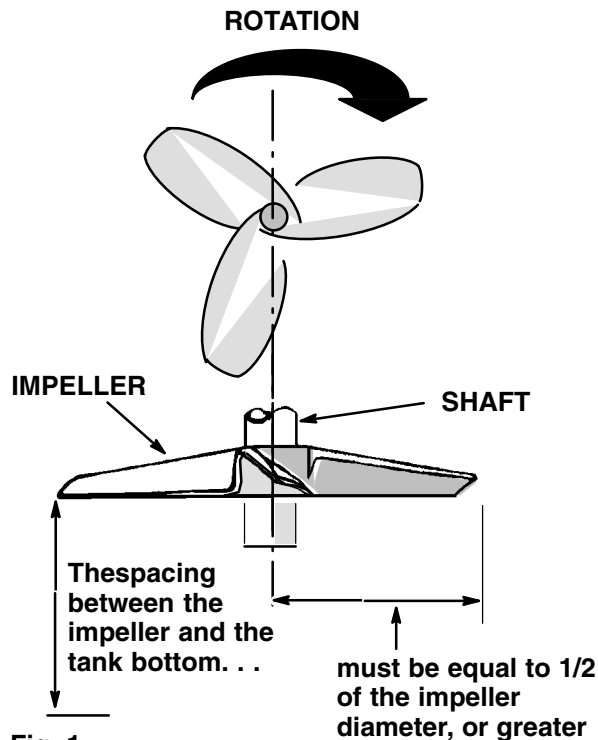

Fig. 1
2. Position the impeller(s) along the shaft as required. The distance from the tank bottom to the lowest impeller blade should be equal or greater than 1/2 the impeller blade's diameter. See Fig. 1.